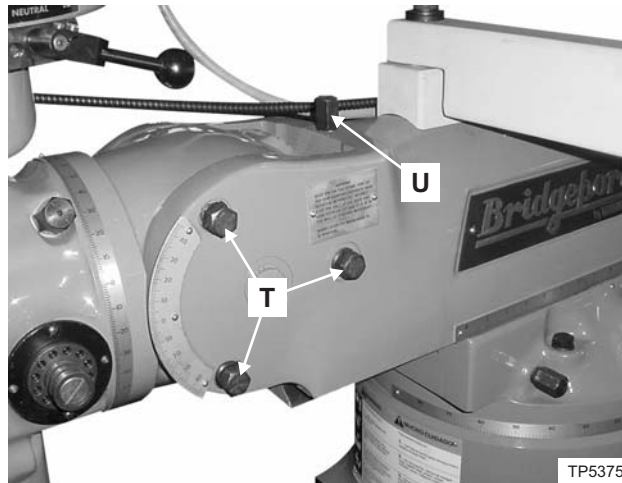

Figure 2.23 - Head Tilt Bolts
1. Loose three ram locking bolts "T", Figure 2.23.
4. Use vertical adjustment worm shaft "U", Figure 2.23, to adjust the Y axis tram as needed.